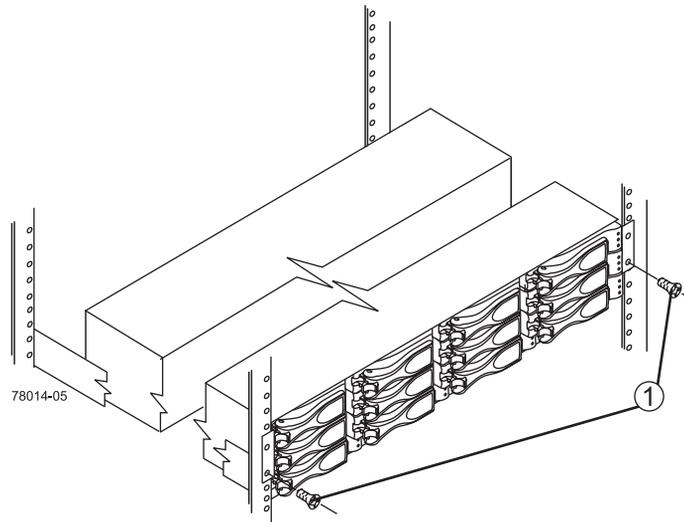

Figure 1-22 Securing the Front Screws on the Disk Enclosure
Use Figure 1-22 on page 26 and the steps that follow to properly secure the disk enclosure in the rack with screws (see item 1).